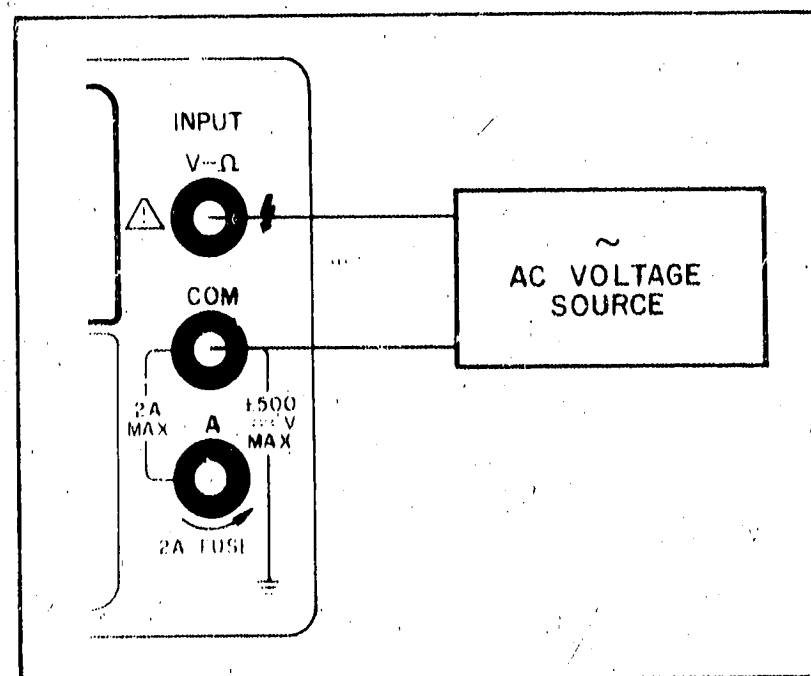

Figure 3-5. AC Voltage Measurement.
- Connect test leads from the Multimeter V Ω (high) and COM (low) terminals to the voltage under test as shown in Figure 3-5.